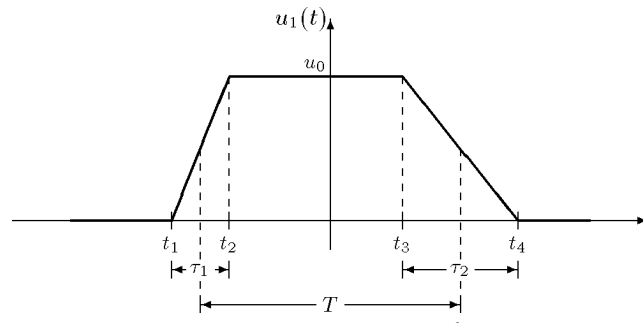

Figure 22-5: Ramp pulse
4. Ramp pulse RAMPE / RAMP (see Figure 22-5)